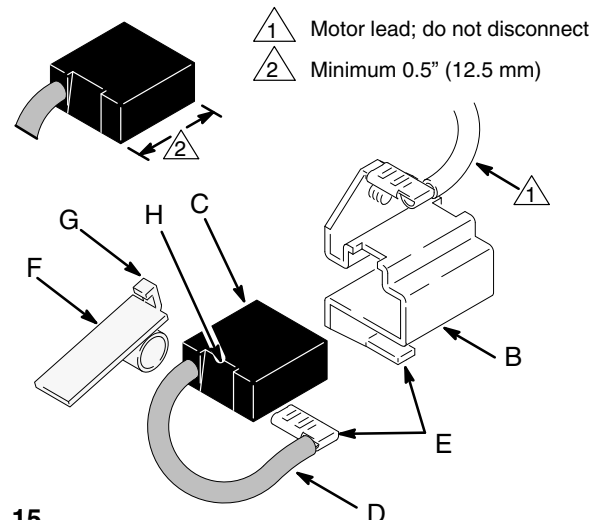

Fig. 15
3. Push in the spring clip (F) and release its hook (G) from the brush holder (B). Pull out the spring clip. See Fig. 15.
4. Slide off the brush lead terminal (E) off the blade connector. Remove the old brush (C). See Fig. 15.
7. Place a new brush (C) in the holder (B) so the ramp (H) faces the spring. See Fig. 15.